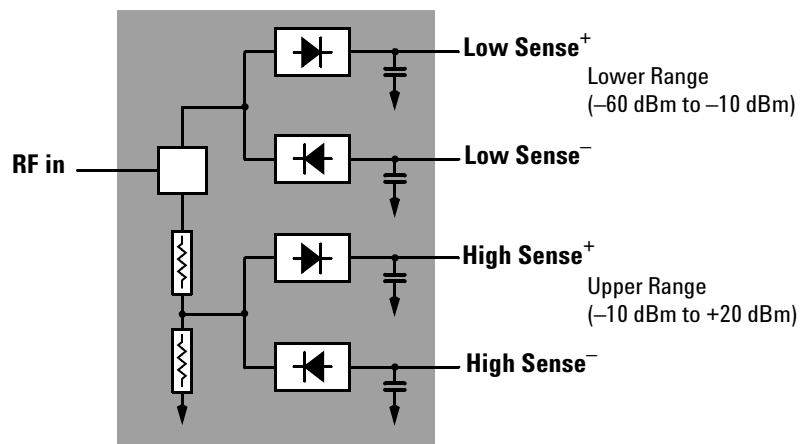

Figure 1-2 Simplified Block Diagram of Diode Pair/Attenuator/Diode Pair
- Figure 1-2 Simplified Block Diagram of Diode Pair/Attenuator/Diode Pair 5
The Keysight E-Series E9300 power sensors are true average, wide dynamic range RF microwave power sensors. They are based on a dual sensor diode pair/attenuator/diode pair proposed by Szente et. al. in 1990*. **Figure 1-2** shows a block diagram of this technique.